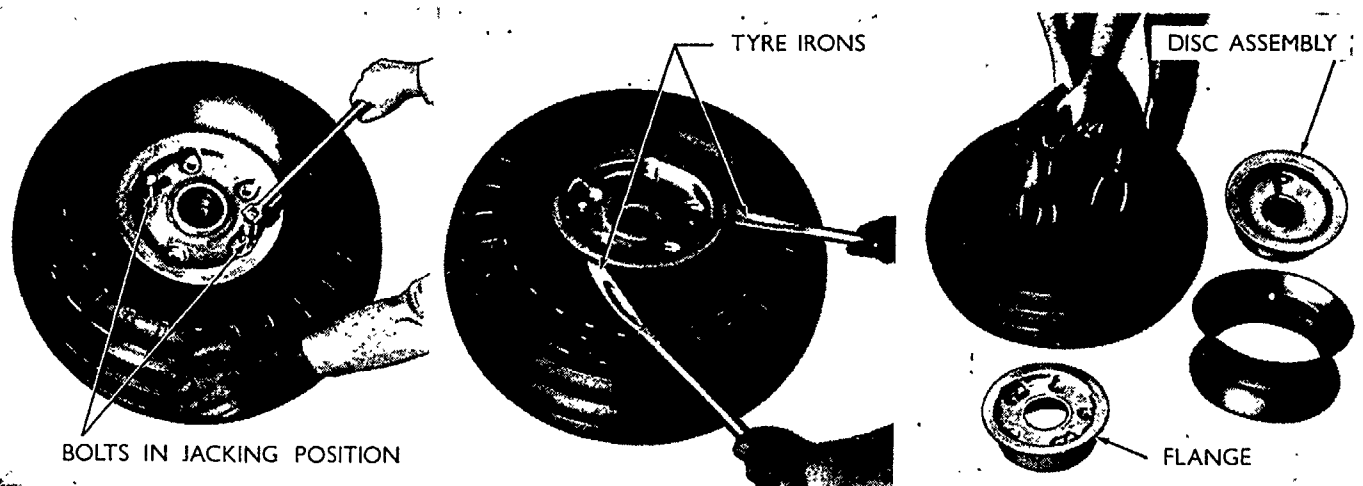

Figure 5
5. Remove the five bolts from the wheel and thread two of the bolts in the opposite side of the wheel. Turn the bolts in until the flange is free of the hub as shown in 'A', Figure 5.
7. Lift the tyre off the hub and remove the tube flap and tube as shown in 'C', Figure 5.